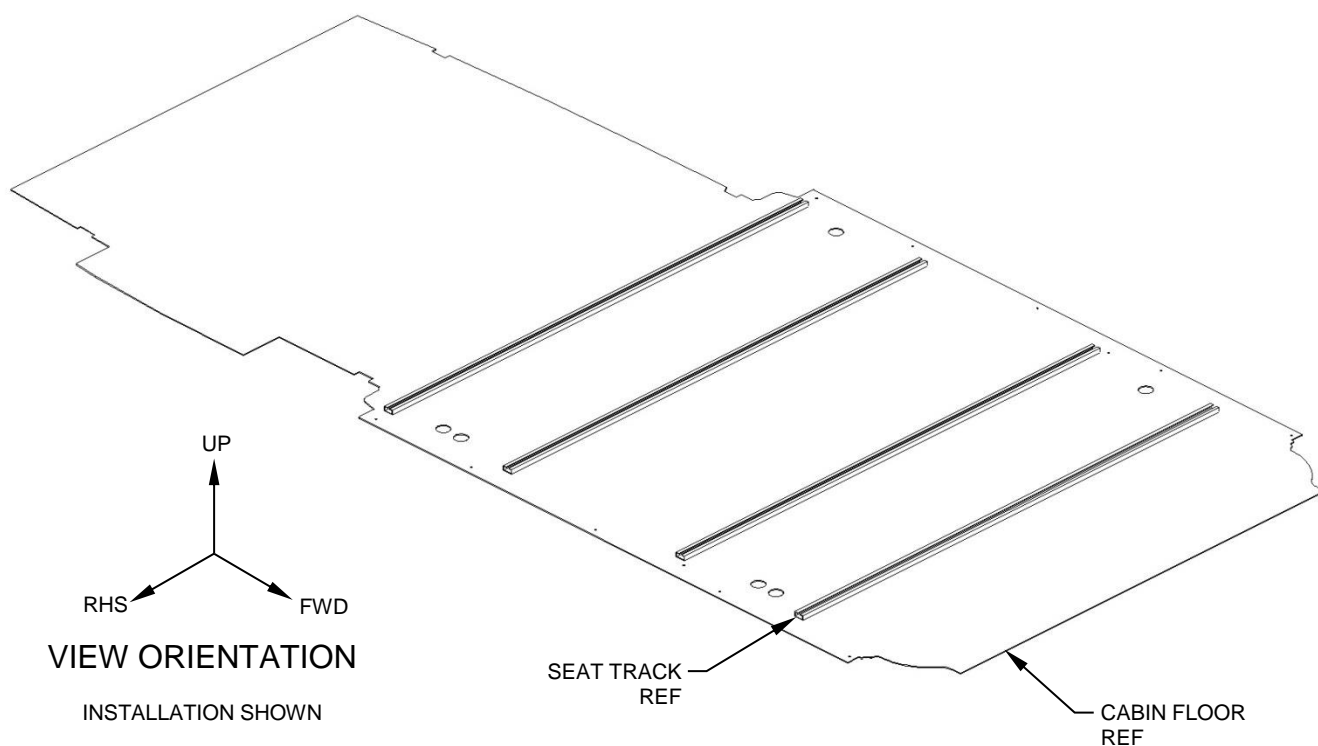

Figure 1
1. Gain access to the AFT section of the cabin floor. Reference Figure 1.